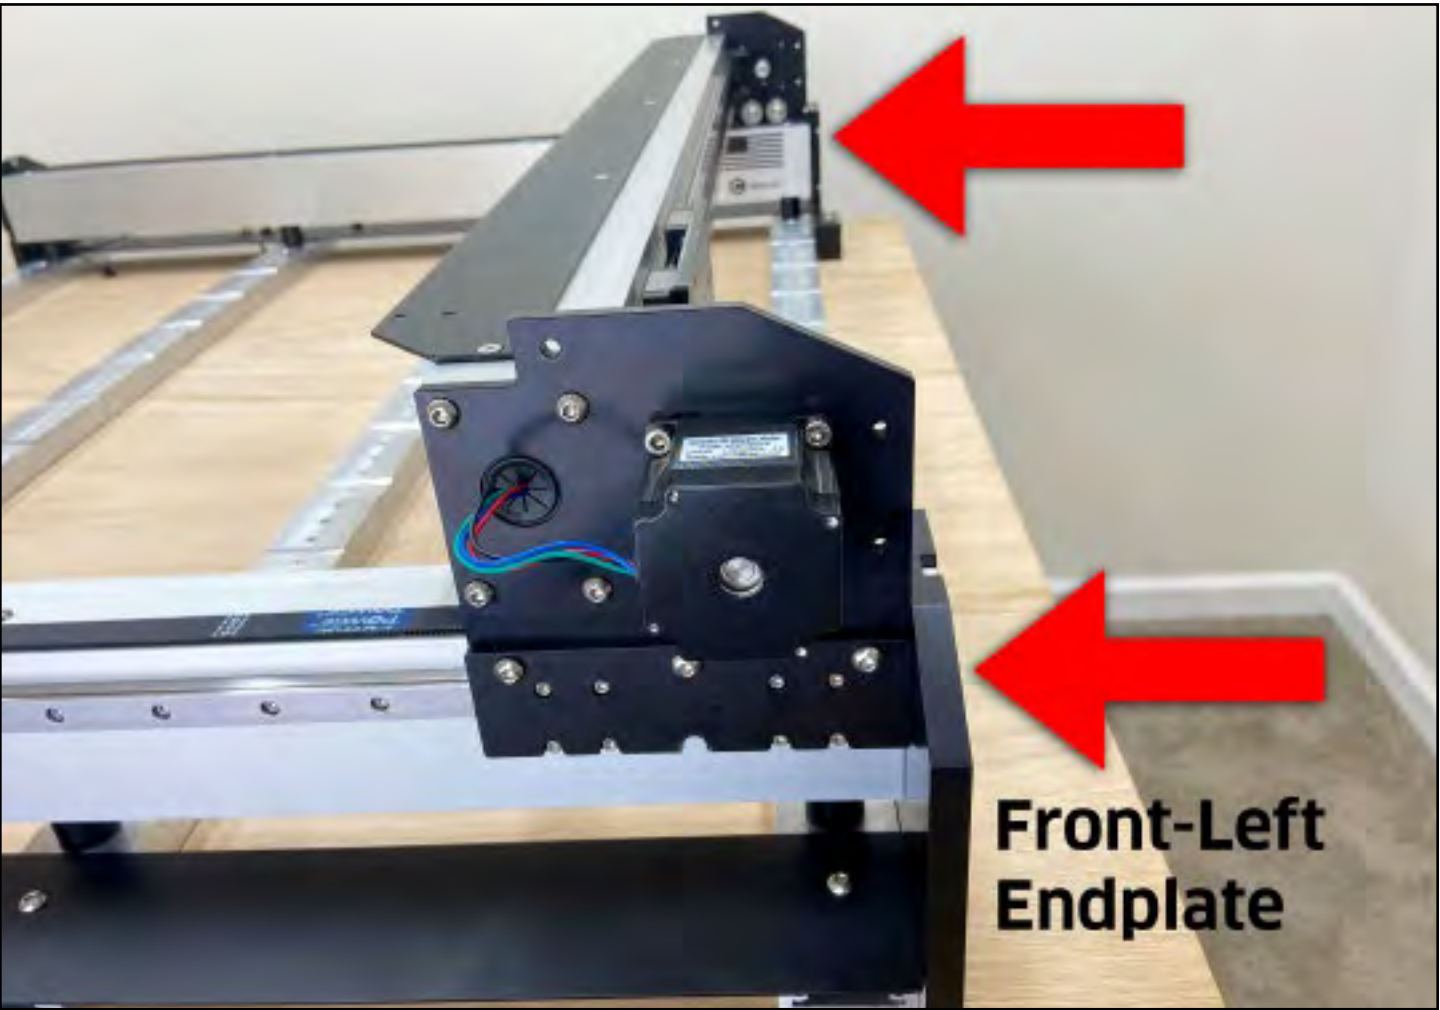

Figure 4-9
- 3. Adjust the squareness of the baseframe until both ends of the gantry touch the front endplates. There should be NO GAPS on either side. **See Fig. 4-9.**
- 6. Use a 4mm hex key to fully tighten the six (6) M6×12mm BHCS securing the gantry to the left and right Y-Axis carrier plates.
- 7. Use a 4mm hex key to fully tighten the eight (8) M6×6mm BHCS securing the left and right drag chain support panels to the baseframe.